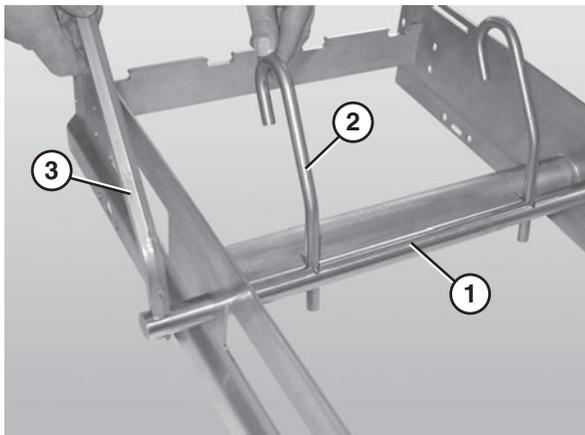

Figure 33
1. Slide the belt lift pivot bar (Figure 33, item 1) through the designated holes in the frame.
2. Attach the lifter bars (Figure 33, item 2) to the belt lift pivot bar (Figure 33, item 1). Make sure the hooked ends of the lifter bars are facing down when resting against the frame.
3. Attach the lifter handle (Figure 33, item 3) to the belt lift pivot rod.